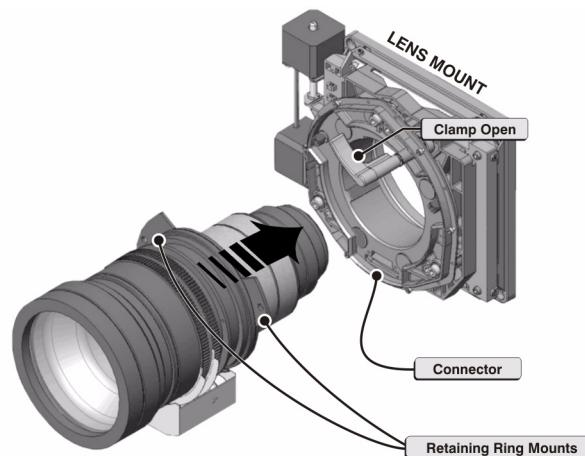

FIGURE 4-5 INSTALL LENS
2. Align the mounts on the lens connector with the lens mount. Insert the lens until it connects with the magnets on the mount. Once the lens makes contact with the magnetic plates it will be seated correctly and the connector for motorized zoom and focus will be properly connected (**Figure 4-5**).